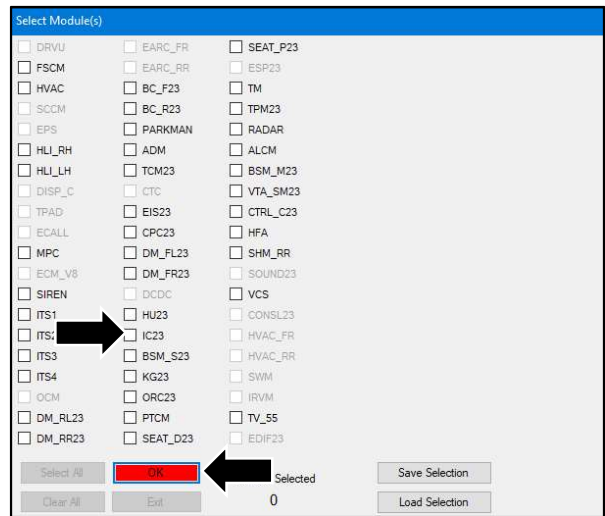

Figure 2
5. Select “IC23” then click “OK” (refer to Figure 2).